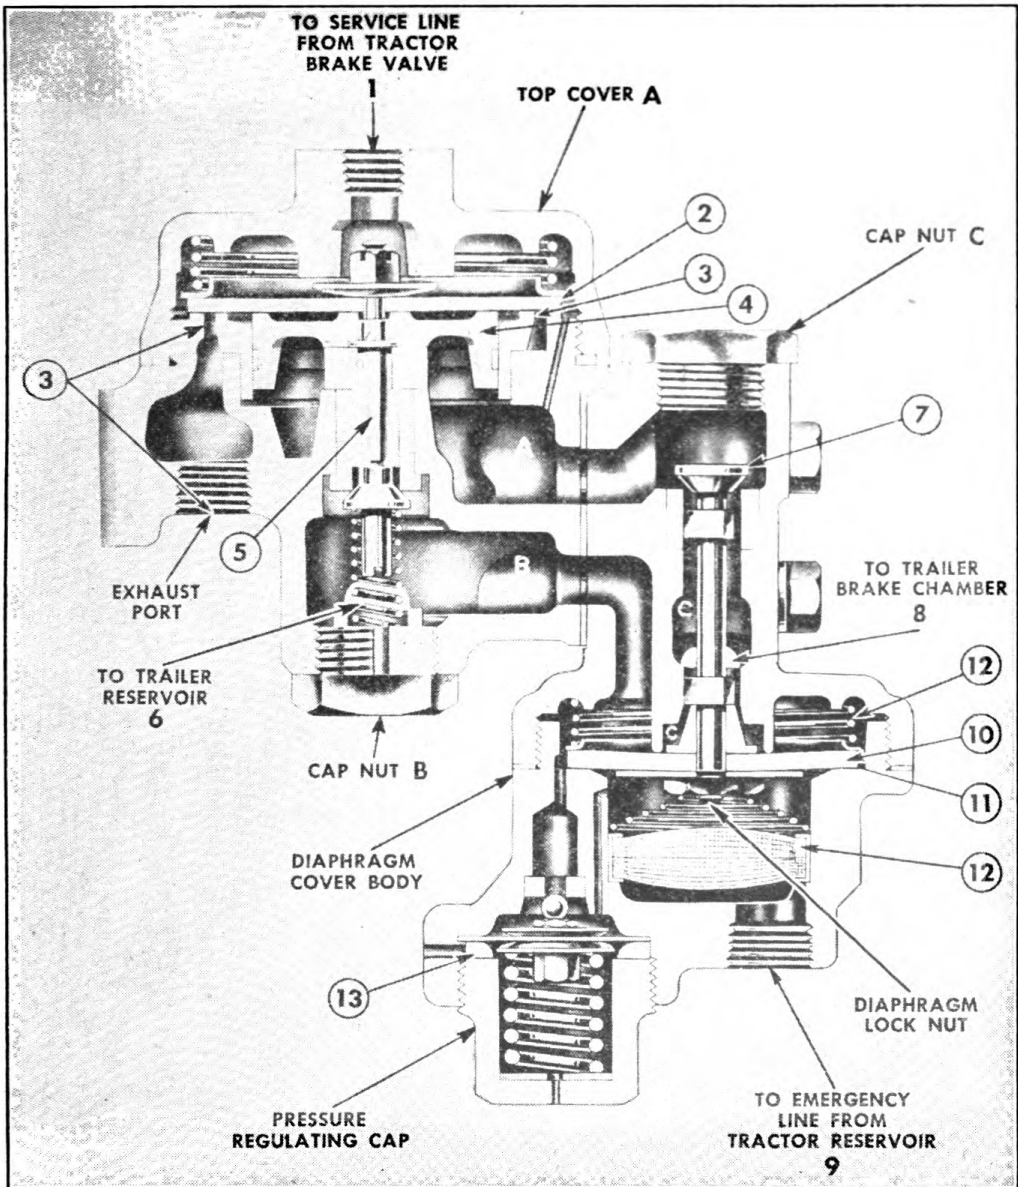

FIGURE 35. RELAY—EMERGENCY VALVE.
(3) Bent or worn pressure plates should be replaced.
(4) Slightly bent brake push rods may be straightened; if severely bent should be replaced.
(5) Worn boots should be replaced.
14. RELAY-EMERGENCY VALVE (Fig. 35).—a. Function.—The relay-emergency valve serves as a relay station to speed up the application or release of the trailer brakes and also provides a means of automatically applying the trailer brakes in case the trailer breaks away from the tractor.
b. Operation (Fig. 35).—The operation of the relay-emergency valve is dependent upon the air pressure delivered to it by the brake valve on the tractor.
g. *Disassembly.*—Diaphragms (2) and (10) should be replaced once a year.
(1) *To clean or replace diaphragm (2).* (Fig. 35):
- (2) *Cleaning or replacing intake valve (5).* (Fig. 35.)
- (a) Remove the cap nut (B).
- (3) *Cleaning or replacing diaphragm (13).* (Fig. 35)
- (4) *Cleaning or replacing diaphragm (10) and washing strainer (12).* (Fig. 35.)
- (c) Remove cap nut (C). (Fig. 35.) Insert screw driver into slotted top of valve and remove diaphragm lock nut (Fig. 42). Pull out the valve stem and diaphragm (Fig. 43).
- h. Maintenance* (Fig. 35).—The complete valve should be removed from the trailer, dismantled, thoroughly cleaned, and diaphragms (2) and (10) should be replaced at least once a year.
- Strainer (12) should be removed and cleaned in cleaning fluid about every six months.
i. Leakage tests (Fig. 35).—(1) With brakes released, cover exhaust port with soap suds. Leakage is caused by supply valve (5) not seating properly.
(2) With brakes applied, cover exhaust port with soap suds. Leakage is caused by diaphragm (2) not seating properly.
j. Emergency feature tests (Fig. 35).—(1) With full pressure in the trailer reservoir, disconnect emergency line between tractor and trailer. Trailer brakes should apply automatically. This feature should be checked daily.
(2) Cover emergency line hose coupling at front of trailer with soap suds to check for leakage. Leakage is caused by diaphragm (10) not seating properly at (11).
(3) With valve still in emergency position, cover exhaust port with soap suds. Leakage in excess of that evident in test one is caused by valve (7) not seating properly.